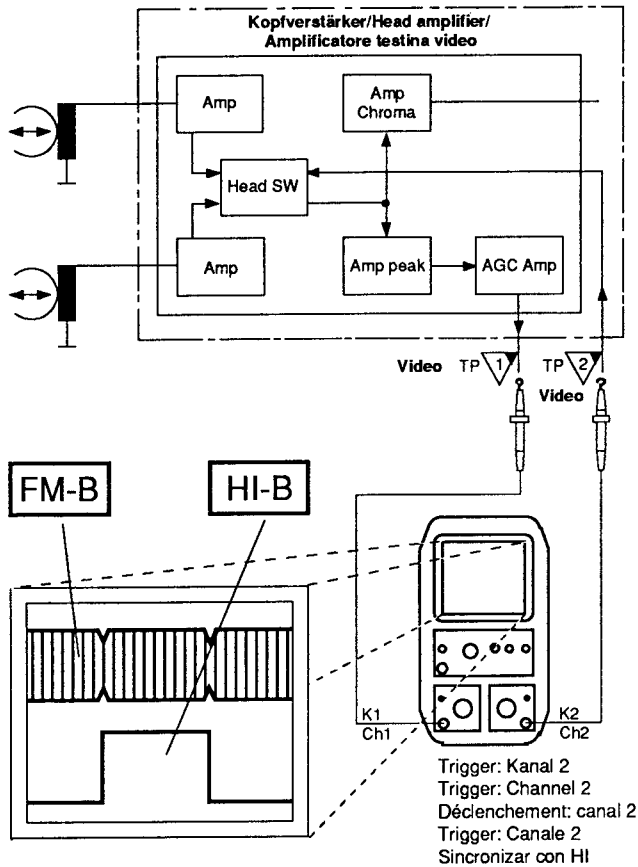

Fig. 37
- Connect the oscilloscope as shown in Fig. 37:
- Connect the Oscilloscope as shown in Fig. 37.